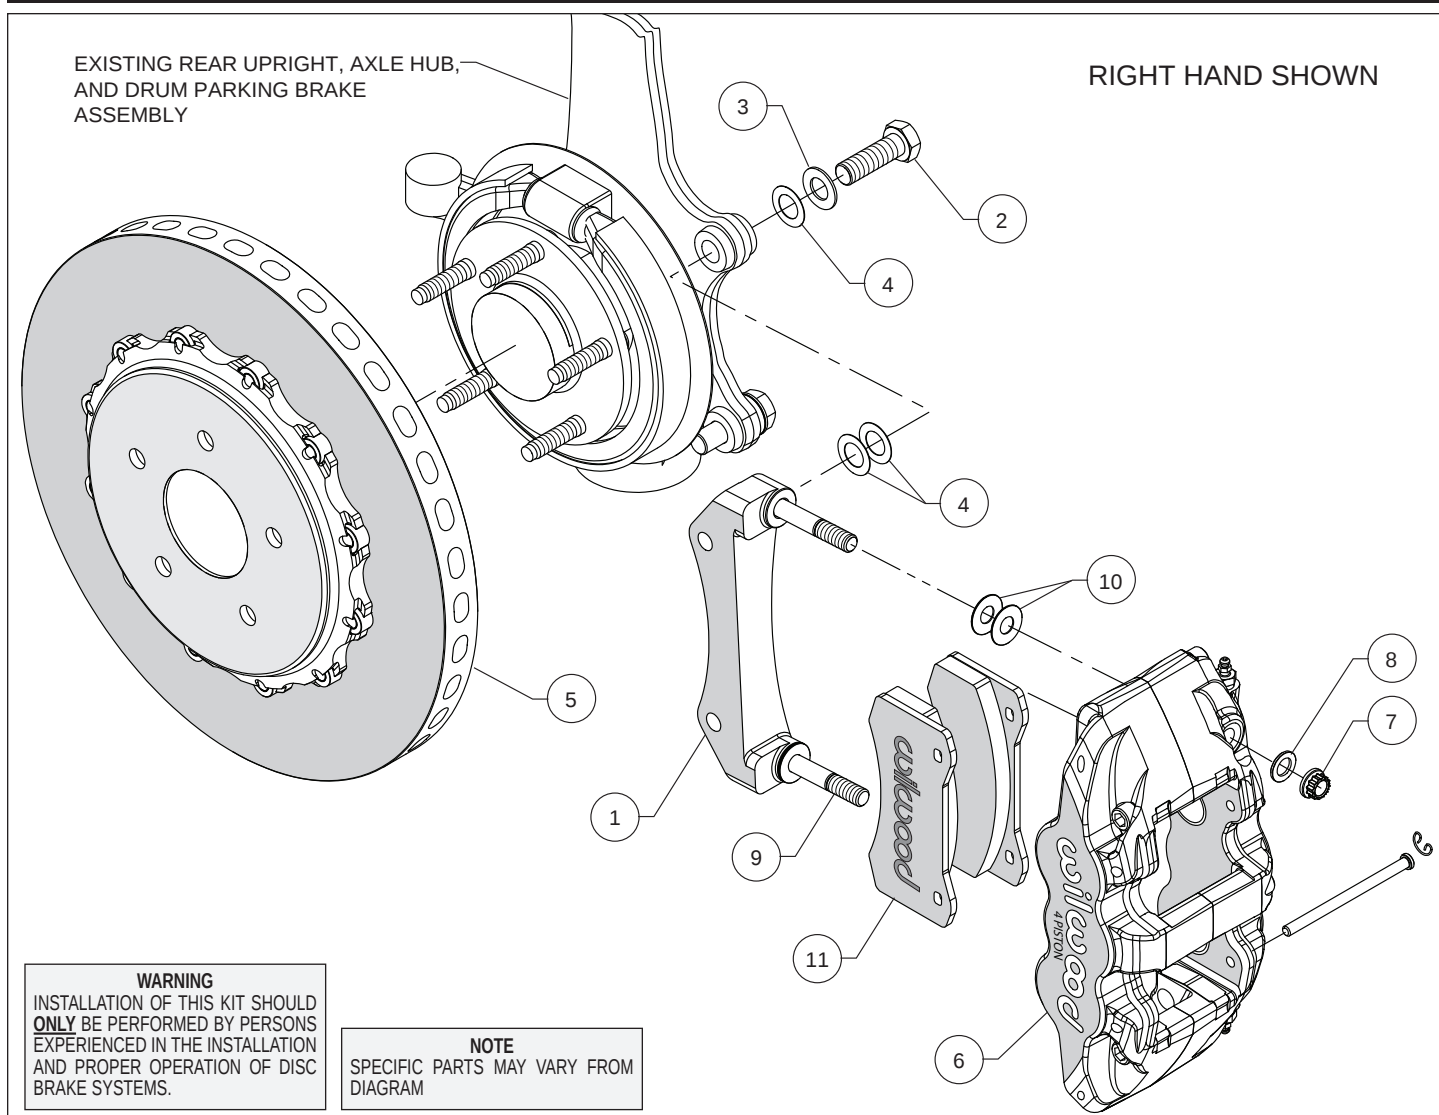

Figure 1. Typical Installation Configuration
Assembly Instructions (numbers in parenthesis refer to the parts list and Figure 1 on the preceding pages):
- The caliper mount bracket (1) should initially be installed with clean, dry threads on the mounting bolts. Orient the bracket as shown in Figure 1 and Photo 1, and install using bolts (2), washers (3), and one shim (4). Initially place two .015 thick shim (4) on each bolt between the bracket and upright, Figure 1. Temporarily tighten the mounting bolts. **NOTE:** *The bracket must fit squarely against the mount bosses on the upright. Inspect for interference from casting irregularities, machining ridges, burrs, etc. Later, after the caliper alignment has been checked, the mount bolts will be secured using red Loctite® 271.*
- Lubricate the caliper mounting studs (9) with lightweight oil. Initially place two .030" thick shims (10) on each stud between the caliper and the bracket, as shown in Figure 1 and Photo 2. Mount the caliper (6) onto the bracket (1) using lock nuts (7) and washers (8), Figure 1. Temporarily tighten the lock nuts and view the rotor through the top opening of the caliper. The rotor should be centered in the caliper, Photo 3. If not, adjust by adding or subtracting shims (4) between the bracket and the upright. Always use the same amount of shims on each of the two mounting bolts. Once the caliper alignment is correct, remove the bracket mounting bolts one at a time, apply red Loctite® 271 to the threads, and torque to 77 ft-lb.
- Remove the two pad retaining pins from the caliper by carefully popping out the pin retaining clips and sliding out the pins. Insert the brake pads (11) into the caliper from the bottom, Figure 1 and Photo 4, with the friction material facing the rotor and secure the brake pads in place with the pad retaining pins and clips, Photo 5. Reinstall the caliper onto the caliper mounting bracket and temporarily tighten the lock nuts. Check that the top of the brake pad is flush with the outside diameter of the rotor, Photo 6. If not, adjust by adding or subtracting shims (10) between the caliper and the bracket. After the caliper pad height is set, torque the caliper lock nuts (7) to 47 ft-lb.